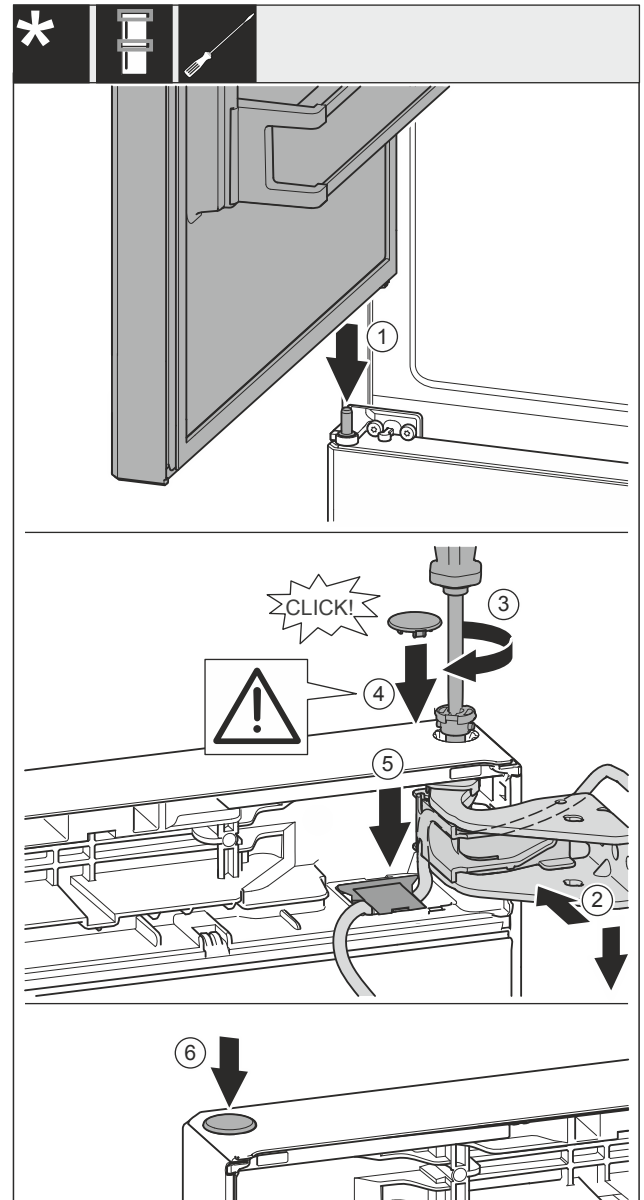

Fig. 41
- ▶ Position top door onto the center bearing pin Fig. 41 (1).
- ▶ Align the door on the top towards the opening in the swap bearing block Fig. 41 (2).
- ▶ Insert the pin Fig. 41 (3) and tighten it with the screwdriver.
- ▶ Insert the cover Fig. 41 (4).
- ▶ Check to be sure that the cover Fig. 41 (4) is positioned on the door.
- ▶ Insert the cover Fig. 41 (5) and press it down until it snaps down.
- ▶ Insert the cover Fig. 41 (6).